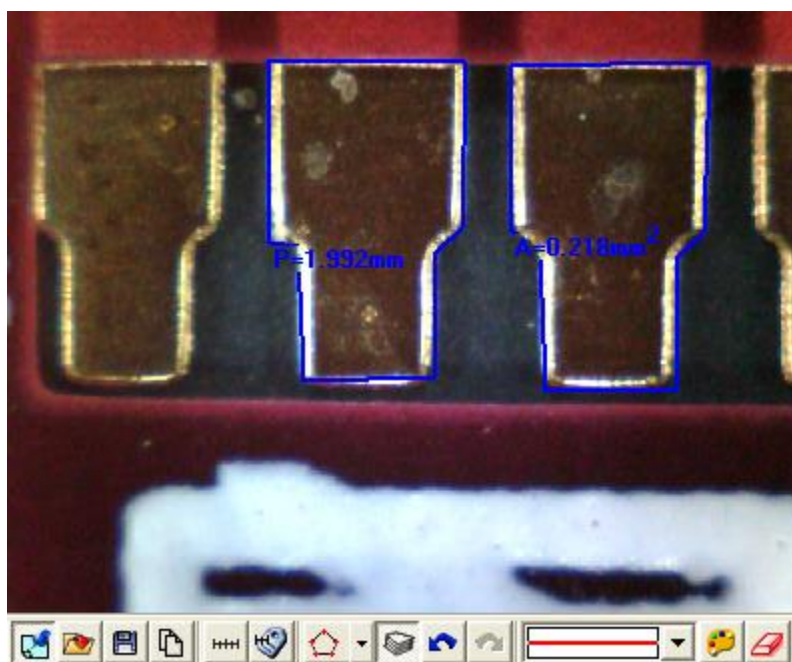

Fig 5-77 Polygon
(14) Polygon : A polygon is a shape that is made up of many sides and has only line segments. Choose “” to measure the area and Perimeter, See Fig 5-77, the calculated polygon P (Perimeter) is 1.992mm, A(Area) is 0.218 mm2 .